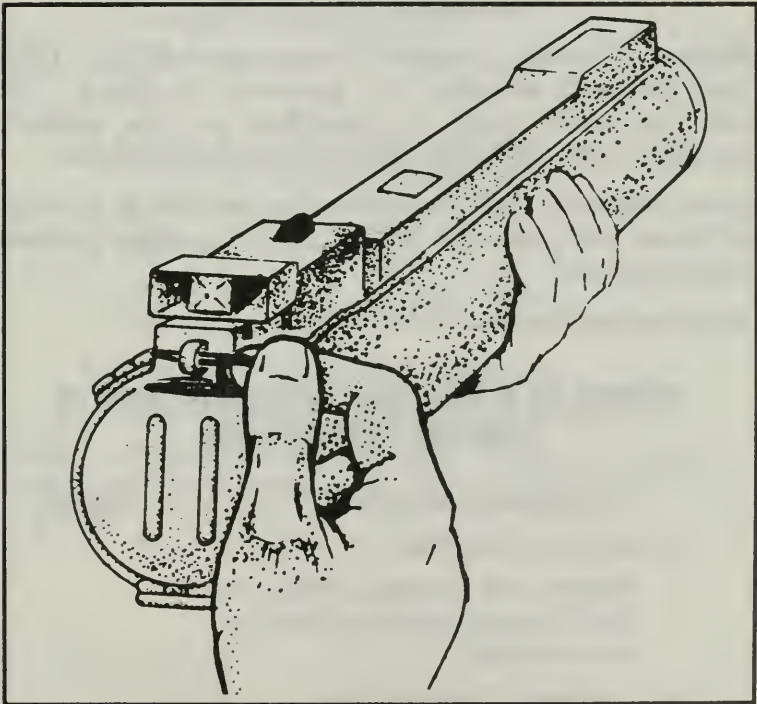

Figure 170. Replacing the pull pin.
b. Replace the cover pull pin (Figure 170).